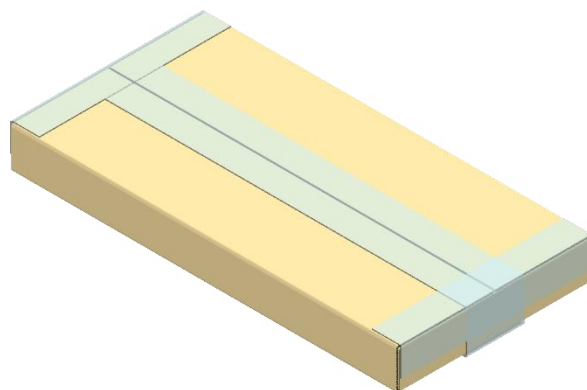

Figure 4: Closure of OPF box
- **OPF** (One Piece Folder) See Figure 4